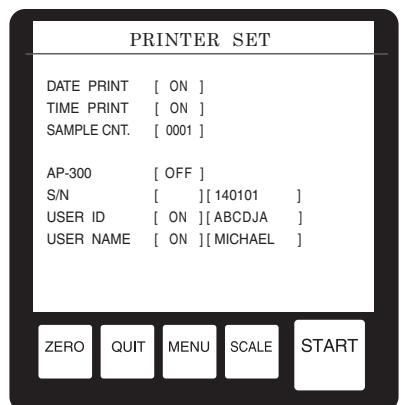

Fig.12-12
- j) The factory default value for "USER NAME" is set to "OFF". Press $\leftarrow$ to change the setting from "OFF" to "ON", then, use the numeric keypad to enter the measurer's symbol, name, number, company name, division name, etc (Fig. 12-12). Check the indication on the display screen to confirm the settings, and then press " $\leftarrow$ ". After a beep, the print items will all be set and the display returns to the "SET UP MENU 2/2" screen.